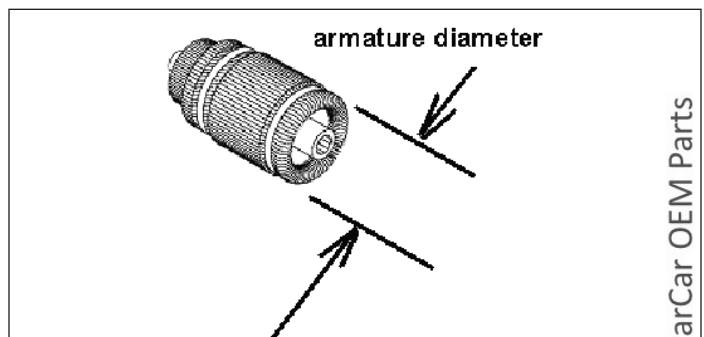

Figure 10-9. Armature Inspection
1. Measure the diameter of the armature part of the motor (Figure 10-9). For the separately excited motor used in 2007 IR, IR, IT vehicles: